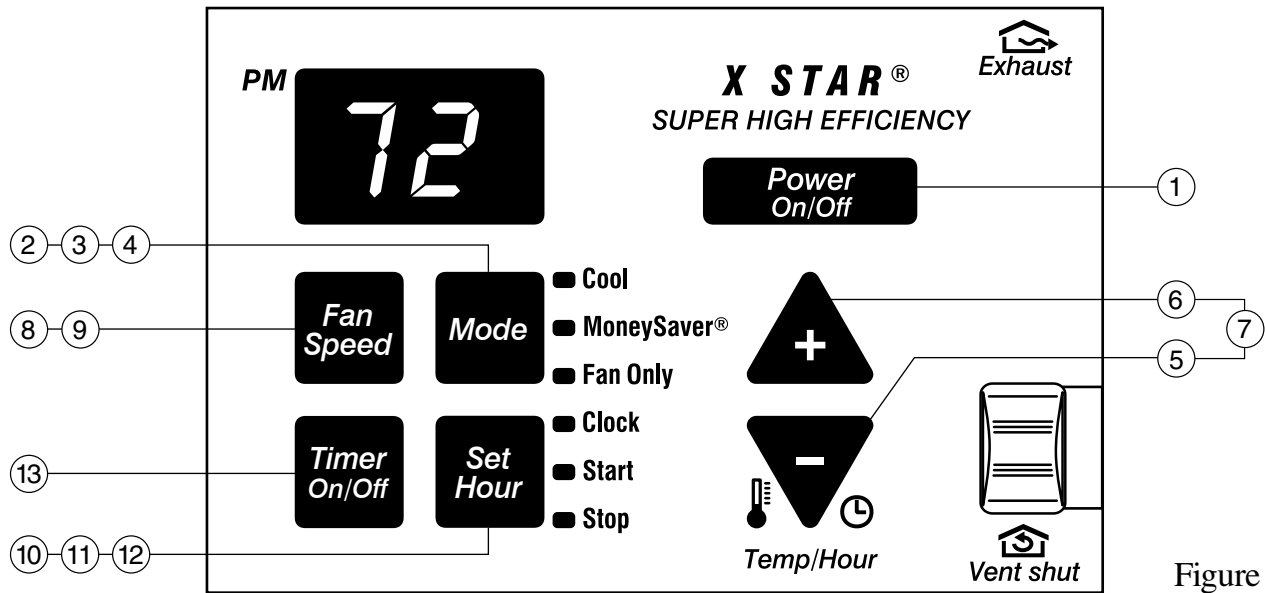

Figure 2
- ② **COOL** - Press the **COOL** button to automatically switch the operating mode to **COOL**.
- ③ **FAN ONLY** - Press the **FAN ONLY** button if you want to run the fan only. You may want to use this feature in conjunction with the **EXHAUST** if you want to exhaust stale air. (The **EXHAUST** feature is located on the upper right side of the electronic control center on the air conditioner). See page 4, Figure 2.
- ④ **MoneySaver®** - Press the **MoneySaver®** button to activate the **MoneySaver®** feature. **MoneySaver®** is the feature that cycles the fan with the compressor so that the fan does not run all the time.